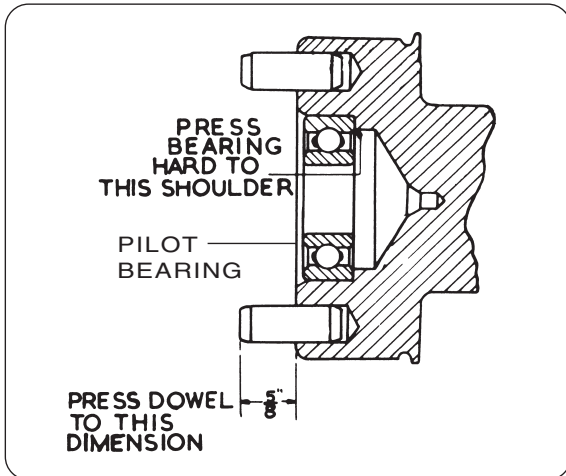

Fig. 5
4. Examine the flywheel dowels for wear and looseness of fit. If necessary press in new dowels to the dimensions shown in fig.5.